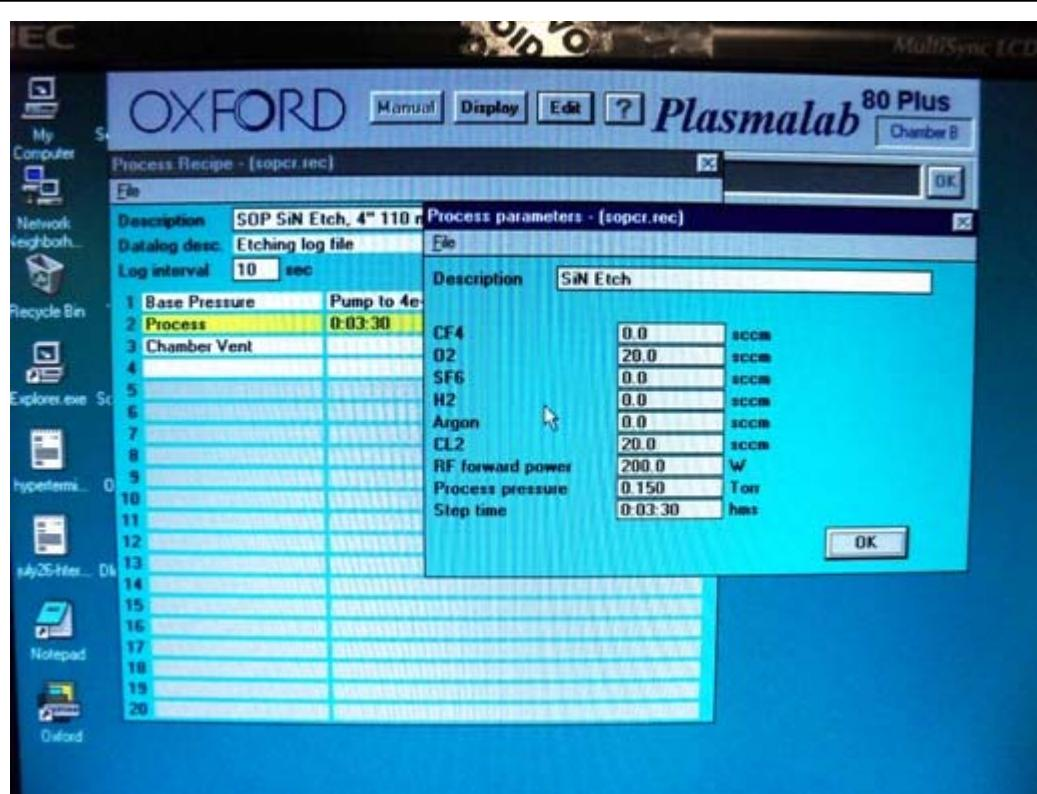

Figure 4, Recipe Editor
| Figure 4, Recipe Editor | 4 |
- 7.3.5 Click on the process step to edit the parameters, as needed. See *Figure 4, Recipe Editor*.